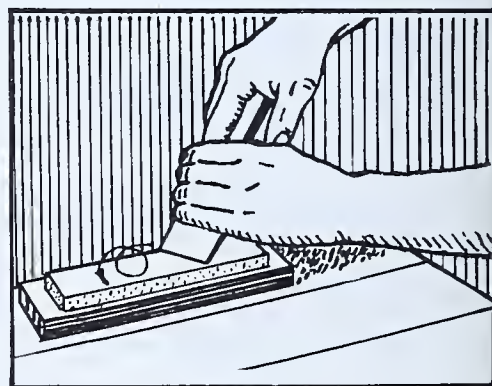

FIG. 143 — *Use Circular Motion*
2. Raise the back end slightly so that only the cutting edge rests on the stone (Fig. 143).
NOTE: If preferred, a circular motion (Fig. 143) may be employed instead of the straight lengthwise motion.